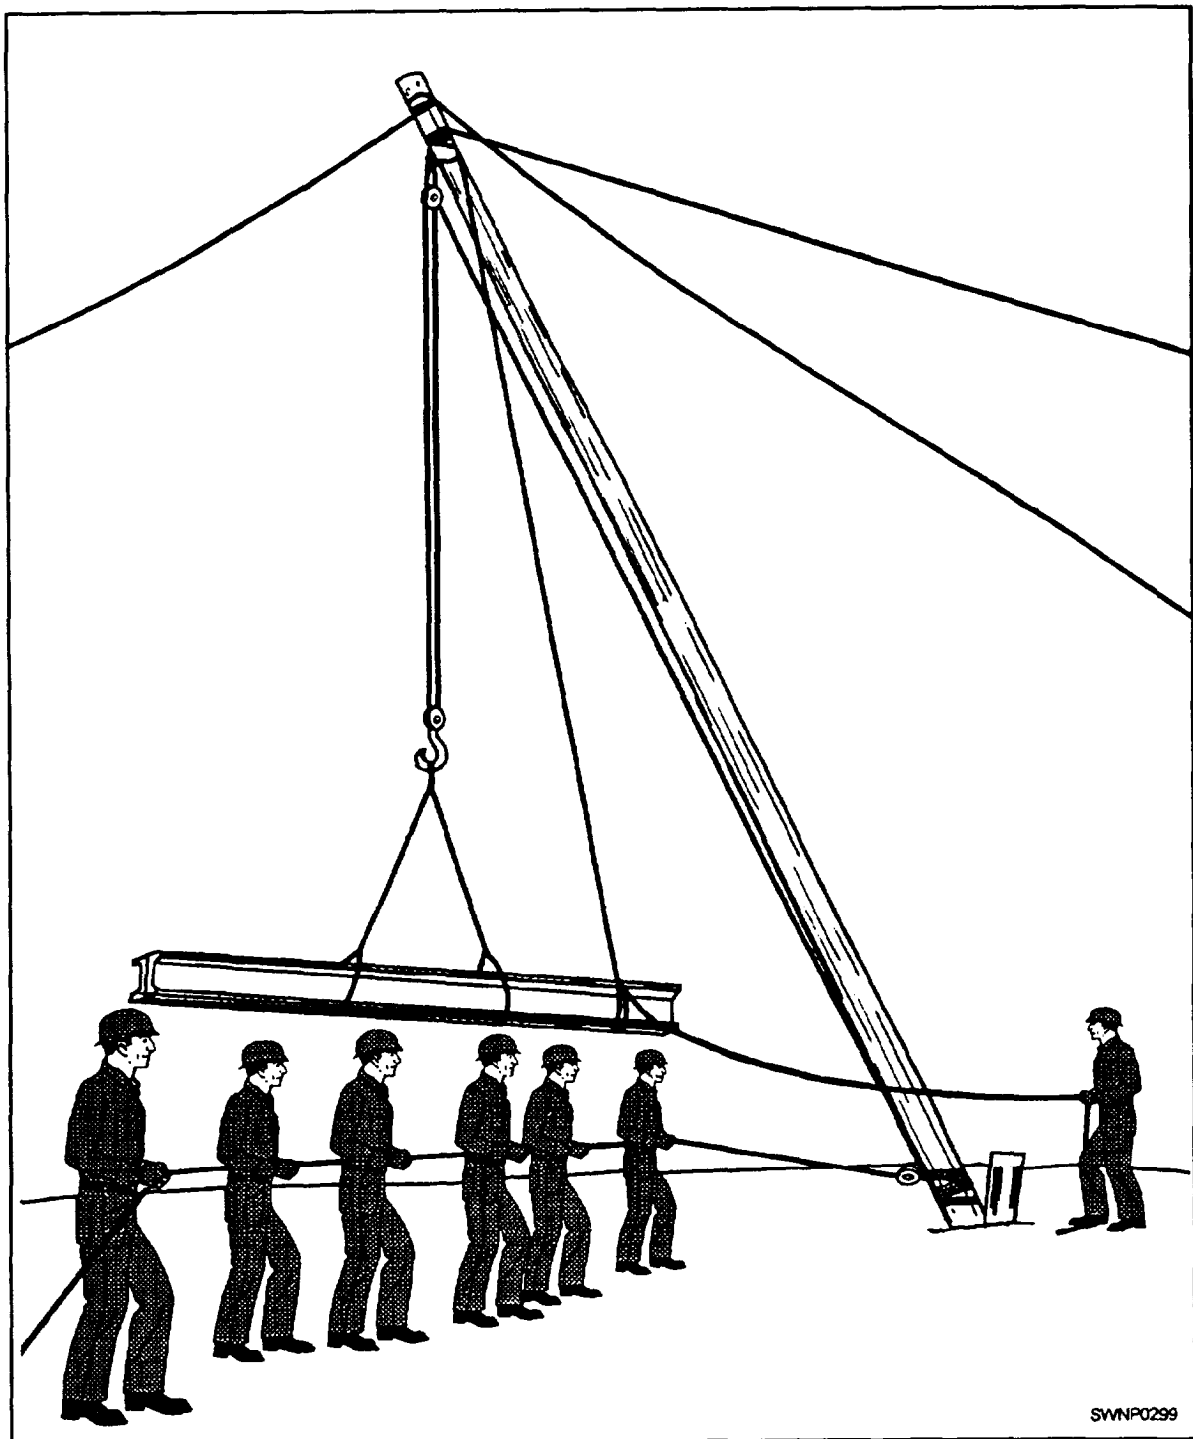

Figure 6-52.—Hoisting with a gin pole.
c. If necessary, the tackle system used to raise and lower the load can be used to assist in raising the gin pole, but the attaching of an additional tackle system to the rear guy line is preferable. Attach the running block of the rear guy line tackle system (fig. 6-52) to the rear guy line end which at this point is near the base of the gin pole. The fixed or stationary block is then secured to the rear anchor. The fall line should come out of the running block to give greater mechanical advantage to the tackle system. The tackle system is stretched to the base of the pole before it is erected to prevent the chocking of the tackle blocks during the erection of the gin pole.